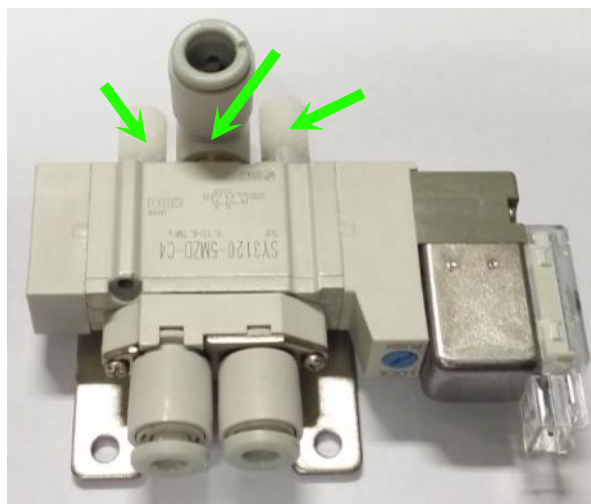

Figure 7 Safety Stop Pneumatic Controller Kit
- Assemble Fitting and Silencer at New Safety Stop Pneumatic Controller Kit. May refer to below Figure 7